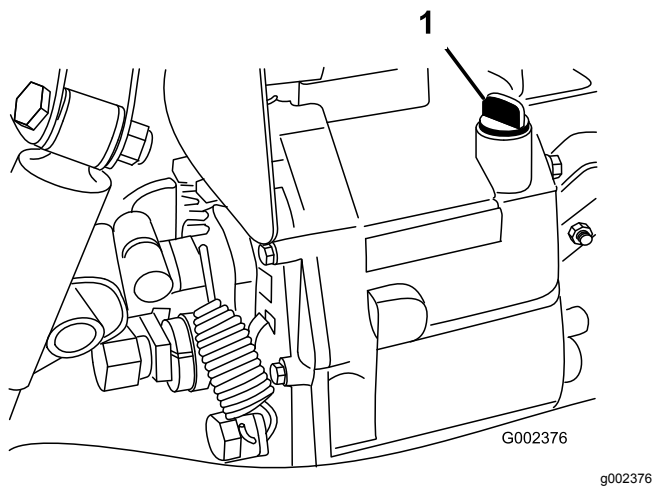

Figure 64
4. Clean the area around the dipstick (Figure 64).